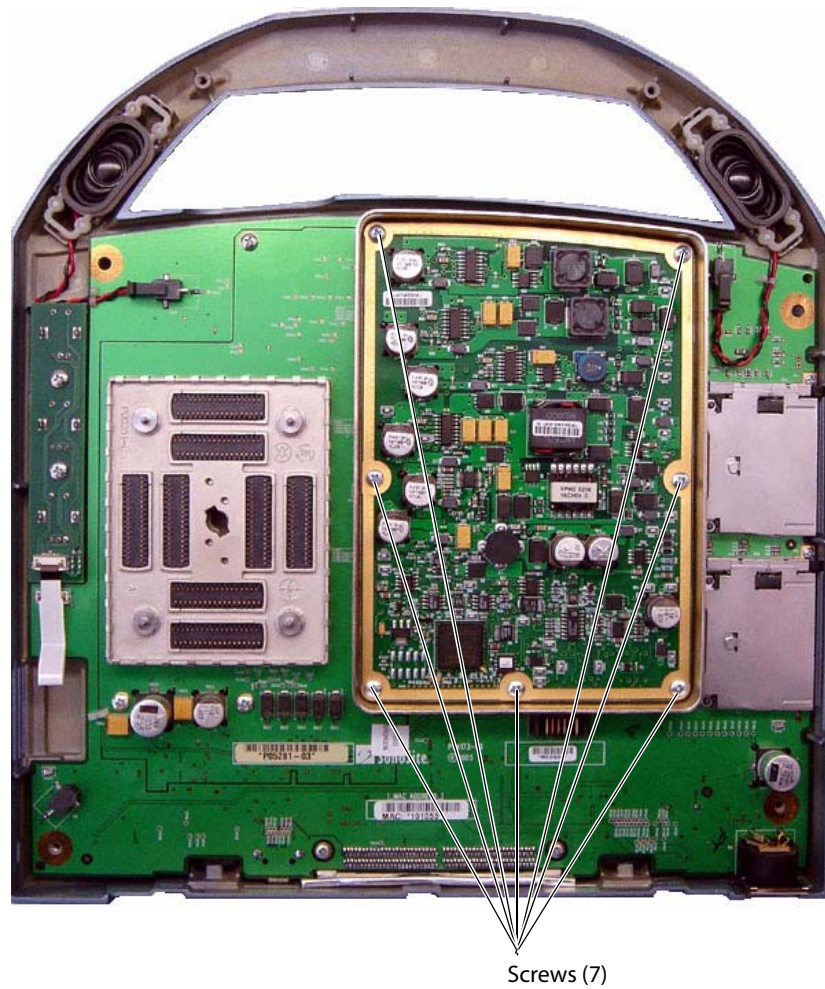

Figure 7.10 Power Supply Screws
- 2 Remove the 7 screws that hold down the power supply PCB per Figure 7.10.